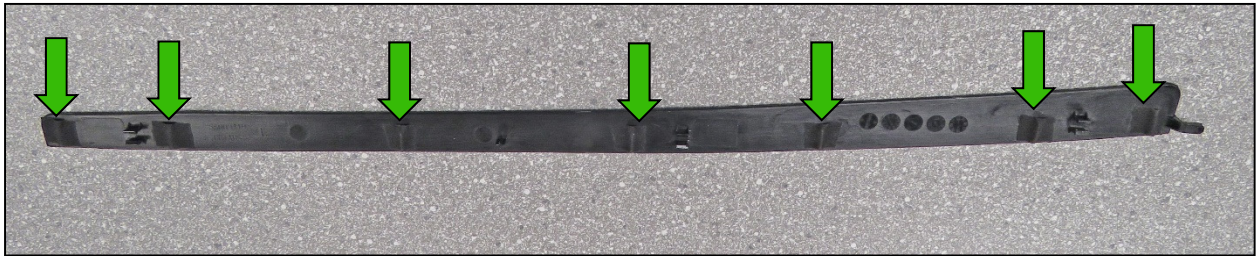

Figure 4
6. Cut seven (7) pieces of flocking tape that are approximately $\frac{3}{4}$ inch (20 mm) in length.
7. Apply one (1) piece of flocking tape to each of the seven (7) raised ribs on the backside of the moonroof inner finisher, as shown in Figure 4.